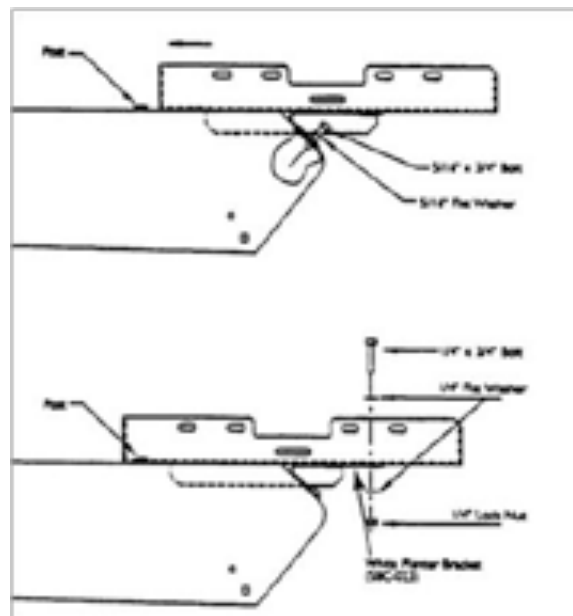

Figure 9
3. Orient SmartBox® cradle as shown (see Figure 9).